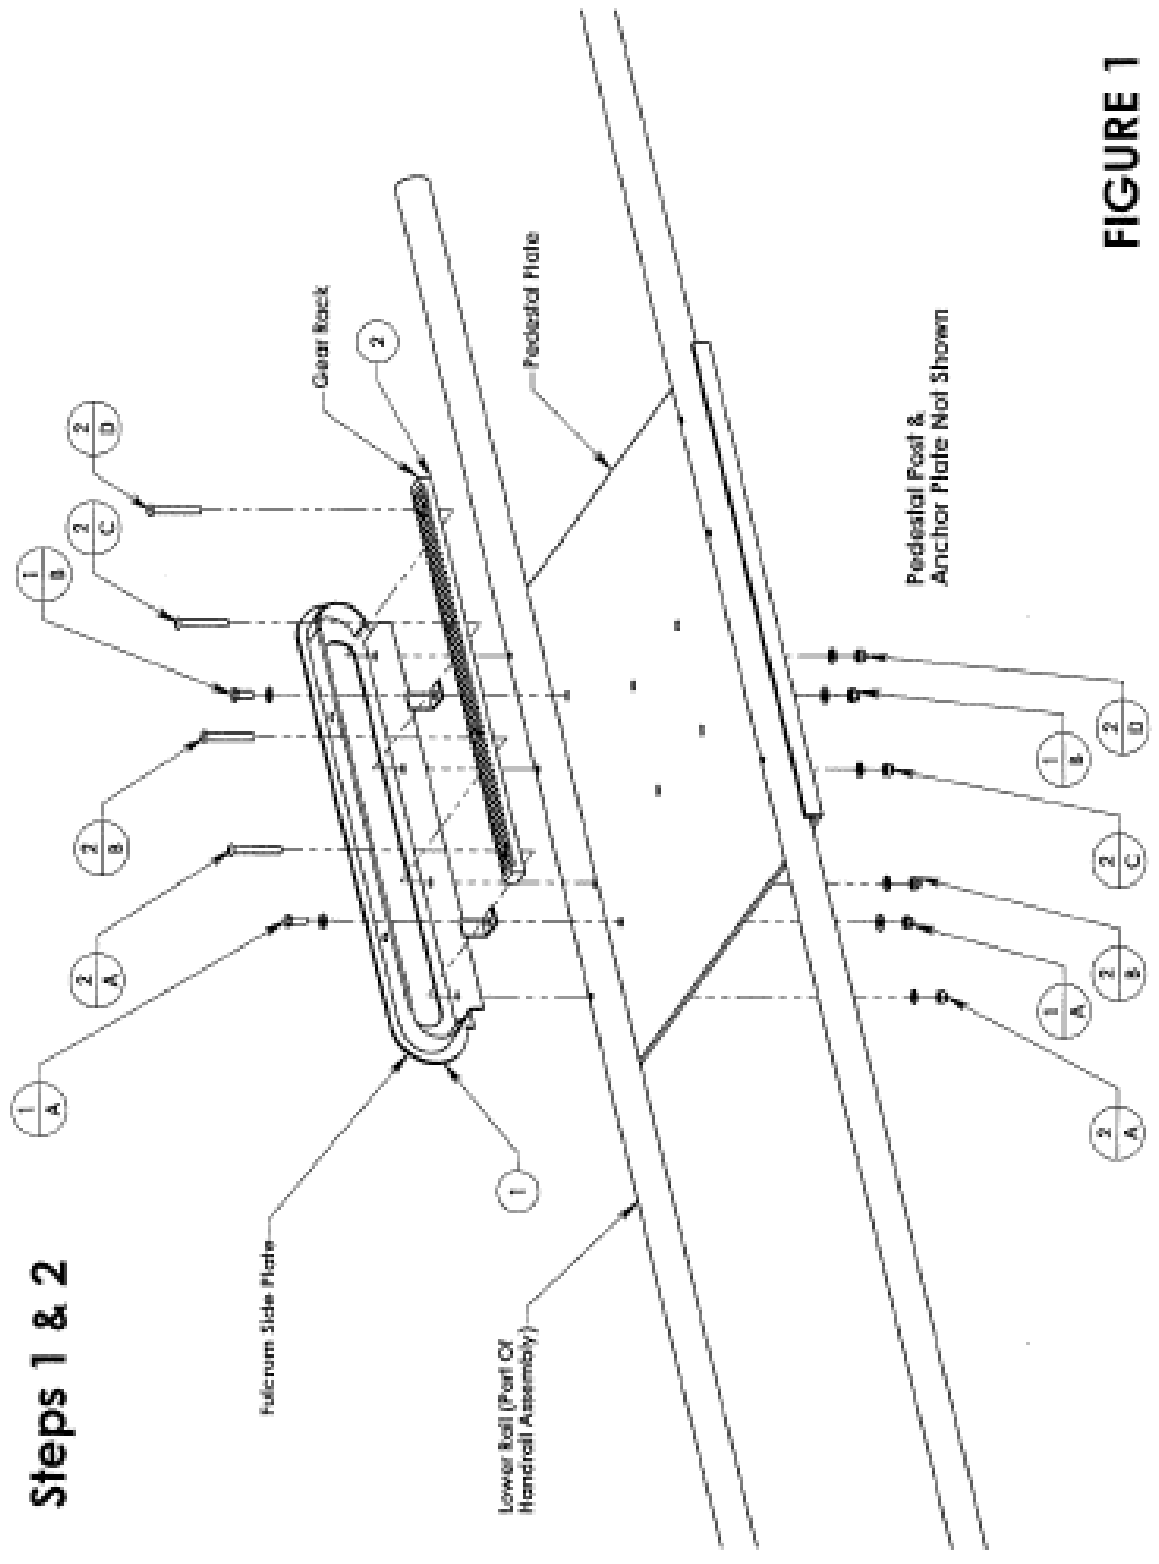

FIGURE 1
- 1) **INSTALL SIDE PLATE*** [Refer to figure 1, labels 1A & 1B]
- 2) **INSTALL GEAR RACK*** [Refer to figure 1, labels 1A & 1B]